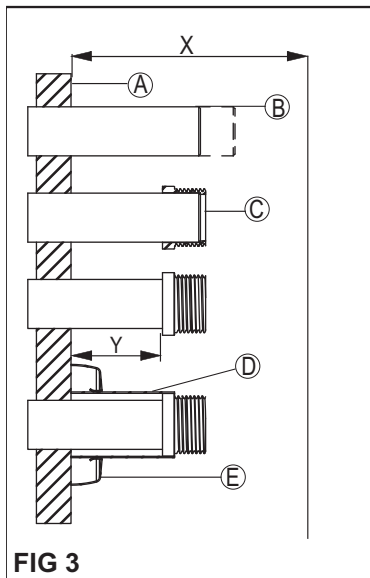

FIG 3
2 - Measure distance from finished wall (A) to centerline of fixture spud (dimension X), see fig 3. Cut water supply pipe (B) 25 mm / 1" shorter than this measurement. Chanfer O.D. and I.D. of water supply pipe. Slide threaded adapter (C) onto water supply pipe until end of pipe rests against shoulder of adapter. Sweat solder adapter to water supply pipe. Determine length of covering tube (D) by measuring distance from finished wall to the first thread of adapter (dimension Y). Cut covering tube to this length. Slide covering tube onto water supply pipe. Slide wall flange (E) over covering tube until it rests against the finished wall.